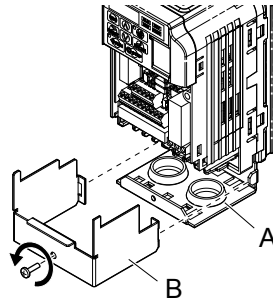

Figure 8.12 Remove the Terminal Cover
2. Loosen the screw on the terminal cover (*Figure 8.12, B*) to remove the terminal cover and expose the conduit bracket (*Figure 8.12, A*).